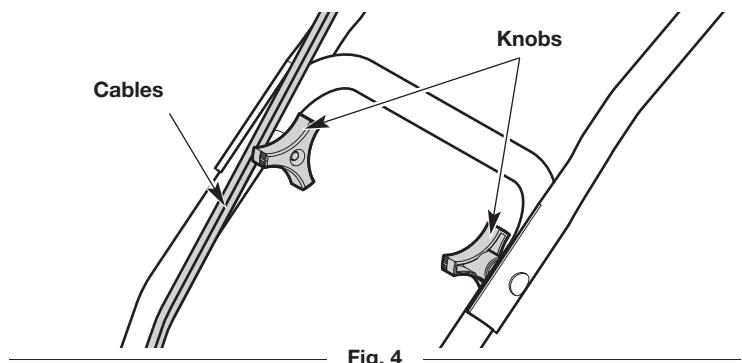

Fig. 4
2. Loosen the knobs (Fig. 4).
- NOTE:** Take care not to pinch the cables when positioning the handlebar (Fig. 4).